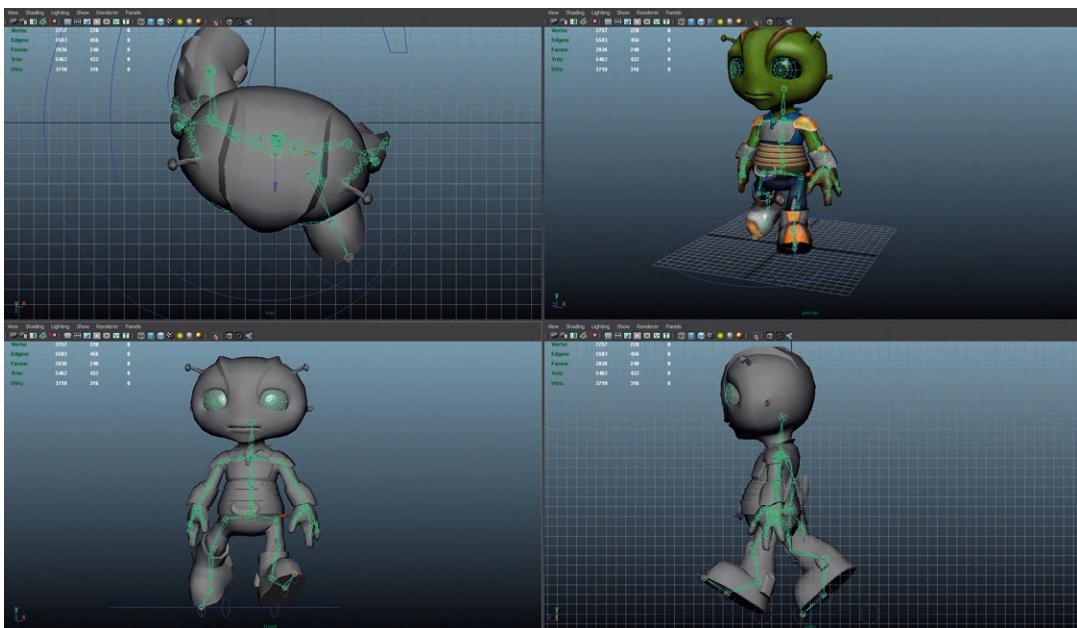

FIG 9.35 Adjusting Root control to fix any knee hyperextension.
Step 22: Update the Root joint's positioning for the left footfall, right footfall, and both passing positions. Be sure that with each pose adjustment at each frame that you hit s. This will likely entail moving the Root forward a little bit at each of those poses, and perhaps dropping it a bit to avoid hyperextension (Fig. 9.35).